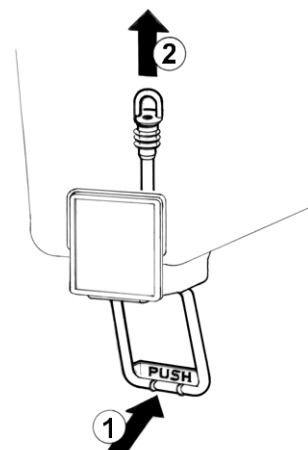

figure 3
- 5 **Pinch tube faucet:** push the dispensing handle (1) and
take the pinch tube off from its seat (2) (see figure 3).